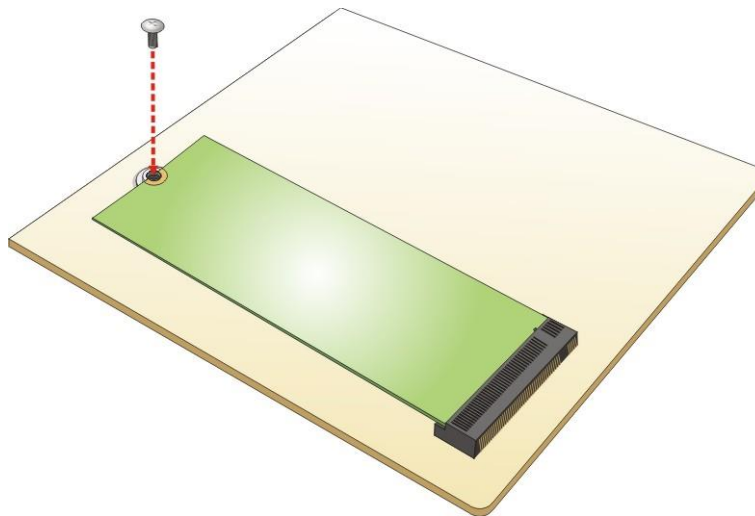

Figure 3-11: Securing the M.2 Module
Step 5: Push the M.2 module down and secure it with the previously removed retention screw (**Figure 3-11**).